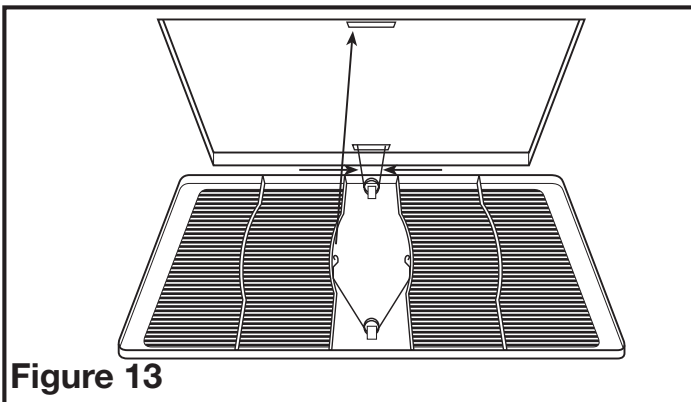

Figure 13
- 4a. **STANDARD AND HUMIDITY SENSING MODELS:** Install the grill by squeezing the two ends of the springs together and installing them up into the slots on the fan's housing. Push the grill up into position (**Figure 13**).